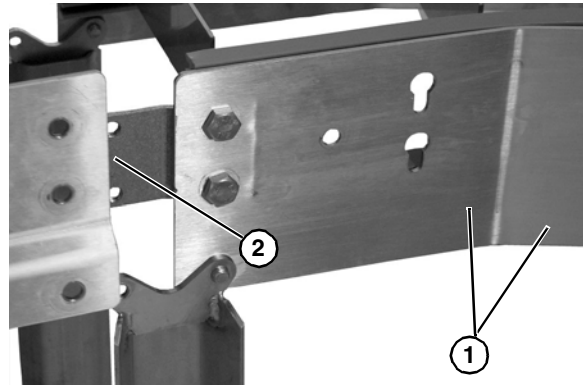

Figure 15
3. When securing straight section to curved section on inside curve (**Figure 15, item 1**) make sure offset plate is to the inside of straight section (**Figure 15, item 2**).